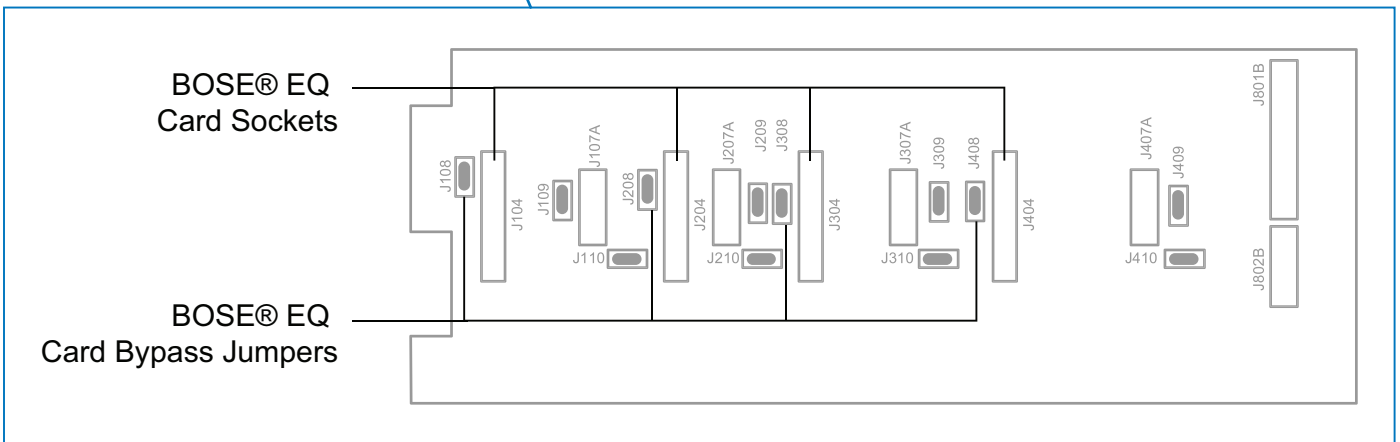

fig.9: Jumper Locations
- Refer to the PCB layout diagrams at fig.9 on page 12. The modules plug into the white 12-pin connectors (J104 to J404) on the upper PCB adjacent to the rear panel. Note the header connectors on the PCB have two notches on one side only; these engage with lugs on the equalisation module's mating connector to ensure correct orientation.